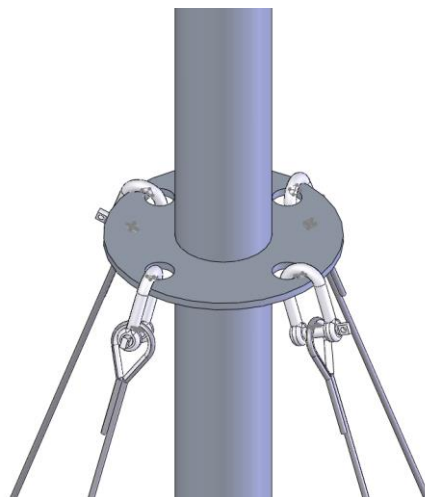

Fig 6: Attach the guy wires to the connection plate
10. **Attach the Guy Wires to the connection plates** – Arrange and fit the guy wires to the upper guy connection plate. Follow the fitting arrangement depicted in fig 6. The crimped end of the guy wire should be attached to the tower using a D-shackle leaving the uncrimped end to be adjusted to length to suite the anchor position. Repeat this for all of the remaining guys to the upper and mid guy connection plates.